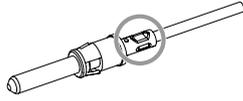

Fig. 11: Pilot contacts
3. Crimp contact and cable (if necessary including the reducing bushing) using the crimping tool (see section "4. Tools"), as shown in *Fig. 11* or *Fig. 13*.